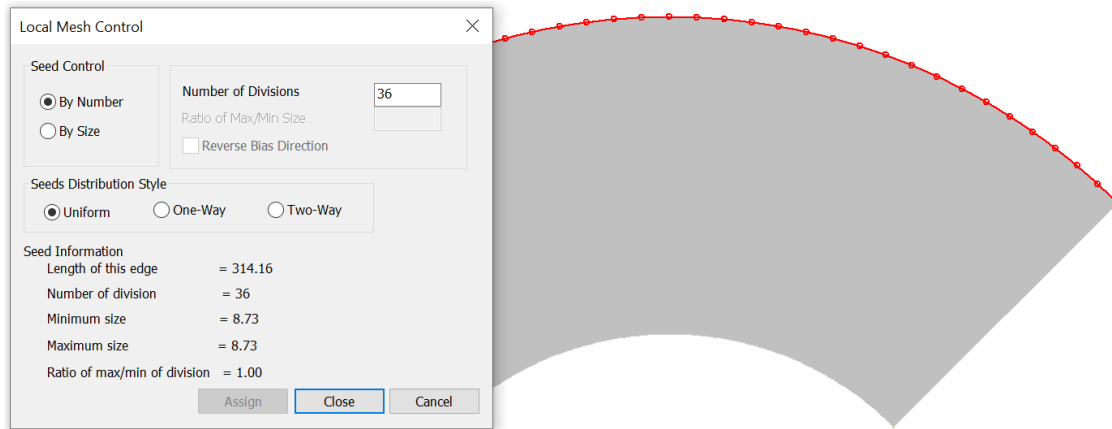

Figure 2.1-29: Dialog for local mesh refinement
3. In the local mesh refinement dialog (Figure 2.1-29), keep all settings at their default but update the division number to 36.